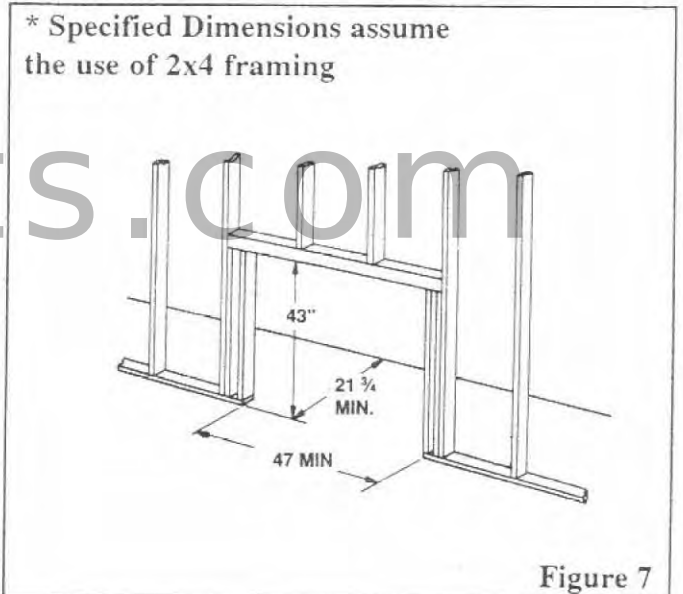

Figure 7
STEP 1: Construct the framing using the dimensions in Figure 7. **NOTE:** If you are using a raised platform, add the raise height.